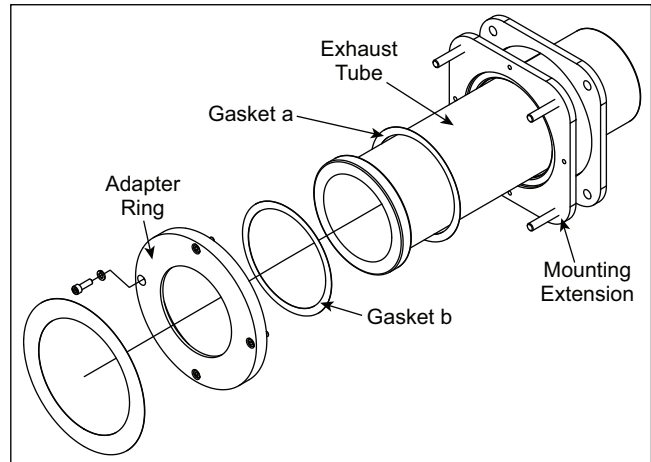

Figure 3.4
3. Place gasket (b) against exhaust tube flange. Use adhesive spray to hold gaskets in place. See Figure 3.4.